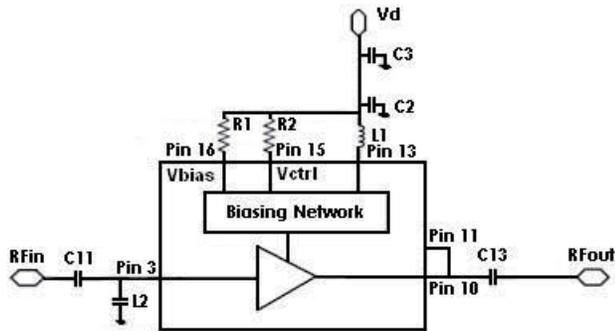

Figure 46. Application Circuit Diagram
1. V_{bias} and V_{ctrl} can be externally controlled by change external biasing resistors $R1 = R_{bias}$ and $R2 = R_{ctrl}$ (as shown in Fig. 46).
- Vbias and Vctrl can be externally controlled by change external biasing resistors $R1 = R_{bias}$ and $R2 = R_{ctrl}$ (as shown in Fig. 46).
- V_{bias} and V_{ctrl} can be externally controlled by change external biasing resistors $R_1 = R_{bias}$ and $R_2 = R_{ctrl}$ (as shown in Fig. 46).
- V_{bias} and V_{ctrl} can be externally controlled by change external biasing resistors $R_1 = R_{\text{bias}}$ and $R_2 = R_{\text{ctrl}}$ (as shown in Fig. 46).